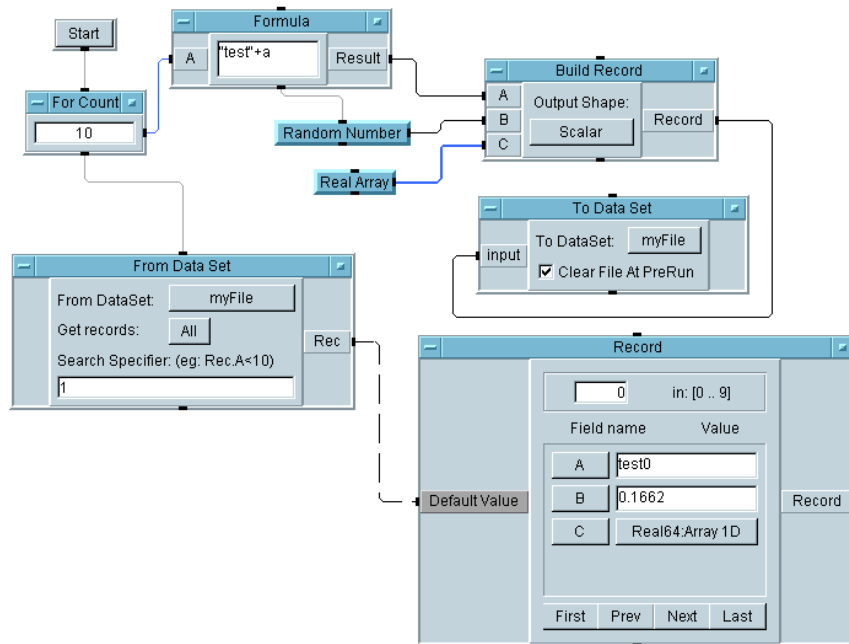

Figure 5-15. Storing and Retrieving Data Using DataSets
12. Run the program and save it as `dataset1.vee`. The program should look like Figure 5-15.